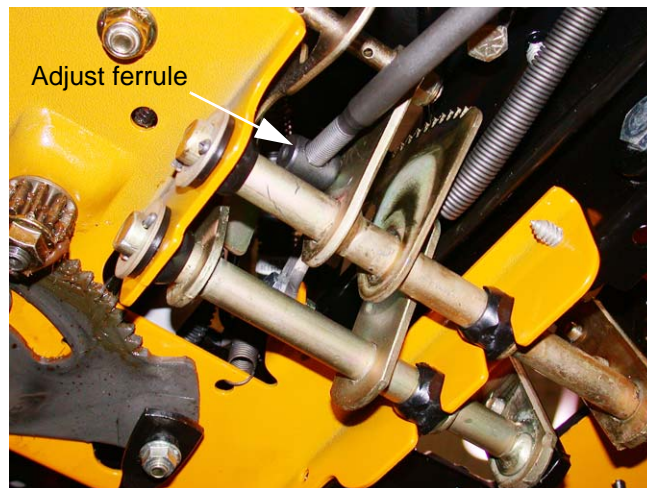

Figure 25.5
25.5. If there is, thread the ferrule up or down the length of the hydro control rod until the post is centered in the hole that it fits into. At this point, the transaxle and the linkage should both be synchronized in neutral. See Figure 25.5.